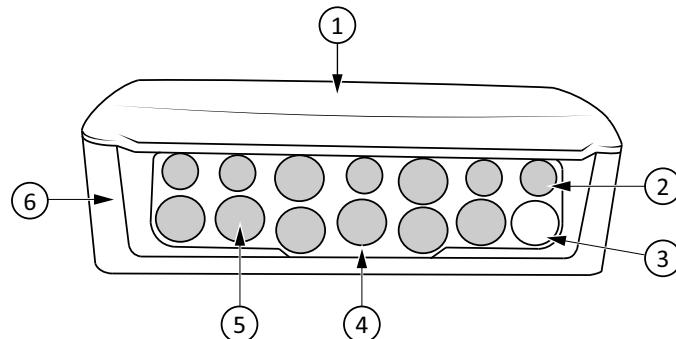

Figure 1 1: Lid, 2: Cable gland assembly, 3: LED, 4: Cable gland, 5: Soft part of cable gland, 6: Housing
1. Pierce a hole that is smaller than the cable diameter through the soft part of the cable gland (see *Figure 1*) with a circular object, such as a Phillips head screwdriver or an awl.
1. Mount the damper unit on a stable, vibration-free surface. It can be mounted horizontally with the lid up (No 1 in *Figure 1*) or vertically with the cable gland assembly (Pos. 2 in *Figure 1*) of the unit pointing down.